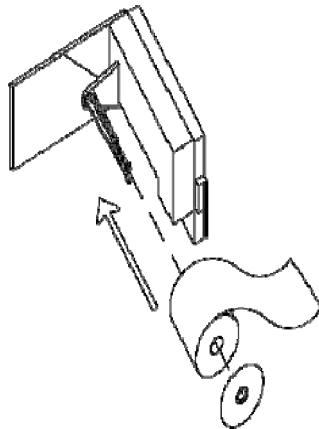

Figure 2. Paper Roll Installation
5. Insert the paper roll on the paper roll shaft as shown in Figure 2. Replace retaining disk with the raised face toward the paper roll. Ensure clips lock into retaining disk.